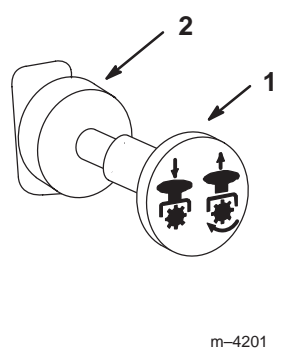

Figure 12
3. Move the PTO (power take off) to the *off* position (Fig. 12).